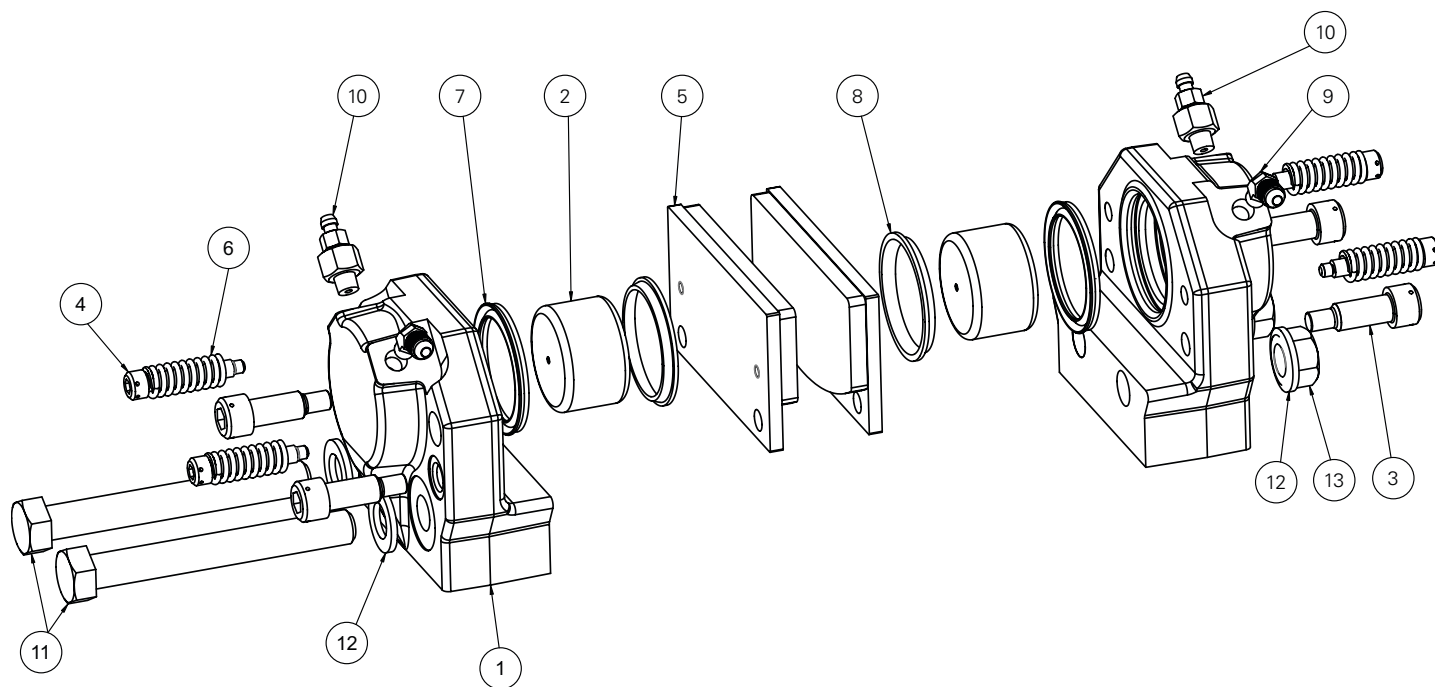

Figure 1
Throughout this manual, explanations mentioning specific components of the caliper brakes are often followed by numbers in parentheses, which refer to the item numbers on Figure 1 Friction shoe assembly (5).